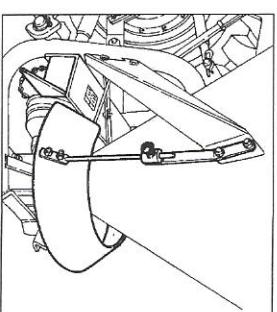

Fig. 14
- Deflector for salt/sand (Fig. 14)